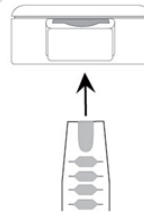

Figure 1.3
4. Begin feeding the strap up through the Tag on one side ensuring the silver conductive side of the strap is facing the Tag. Only go to the first notch leaving enough strap to hold onto (See **Figure 1.3**). Repeat this step for the other side of the Tag ensuring the loop is large enough to slide over the infant's ankle. Once the strap is in contact with the pins of the Tag, a green LED will light up on the tag indicating it is functioning.